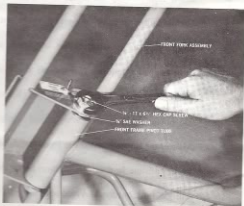

Figure 3
7. Attach front fork assembly to front frame pivot tube with (1)  $\frac{5}{8}$  - 11 x  $6\frac{1}{2}$  head cap screw and (1)  $\frac{3}{8}$  SAE washer. Tighten enough to remove play, but not so tight to restrict steering movement. (See Fig. 3.)